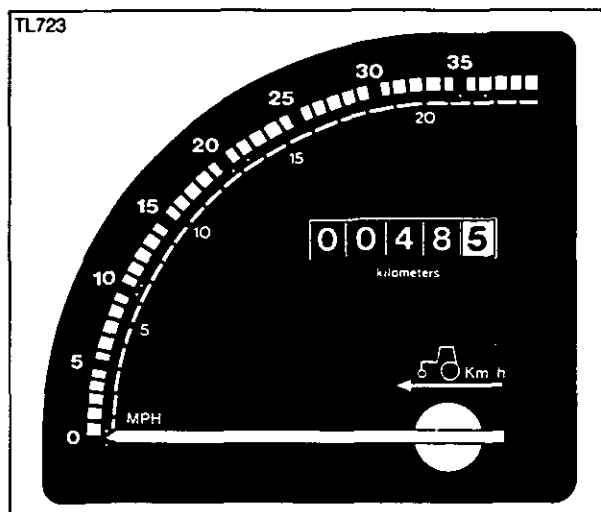

Figure 2
16. Speedometer (Figure 2) – When fitted – indicates the forward speed of the tractor and distance in Kilometers.